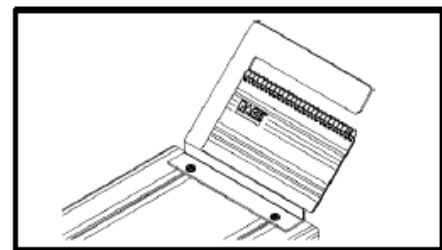

Figure 4. Chart Holder
5. Using Figure 4 as a guide, install the Tip & Temperature Selection System Chart Holder to the top of the power source.